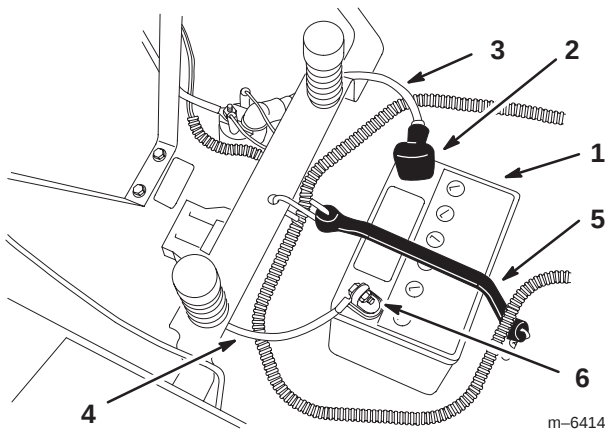

Figure 34
4. Disconnect the negative (black) ground cable from the battery post (Fig. 34).
5. Slide the rubber cover up the positive (red) cable. Disconnect the positive (red) cable from the battery post (Fig. 34).
6. Remove the battery hold-down (Fig. 34) and lift the battery from the battery tray.
1. Position the battery in the tray with the terminal posts away from the control panel (Fig. 34).
4. Secure the cables with 2 bolts (1/4 x 3/4 inch), washers (1/4 inch), and nuts (1/4 inch) (Fig. 34).
6. Secure the battery with the hold-down (Fig. 34).